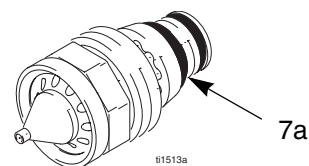

Fig. 8. Nozzle Conductive O-Ring
5. Make sure the metal contact (C) in the barrel, the nozzle contact ring (7a, FIG. 8.), and the electrode contact (E) are clean and undamaged.